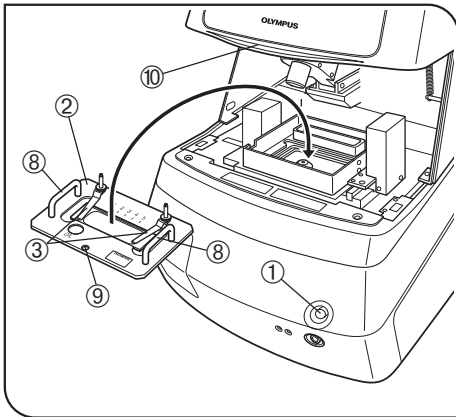

Fig. 2
(Figs. 2 to 4)
- Place the specimen in the specified specimen holder ② and fix the specimen with the specimen stopper ③ (Fig. 2).
3. Hold the specimen holder ② by the holder handle ⑧ (or the pillars of the dish stoppers in the case of the specimen holder for φ35 mm dish) and place it on the specimen holder mount so that the positioning hole ⑨ of the specimen holder comes on the front (Fig. 2).
4. Push down the close lever ⑩ and confirm that a click sound is generated (Fig. 2).